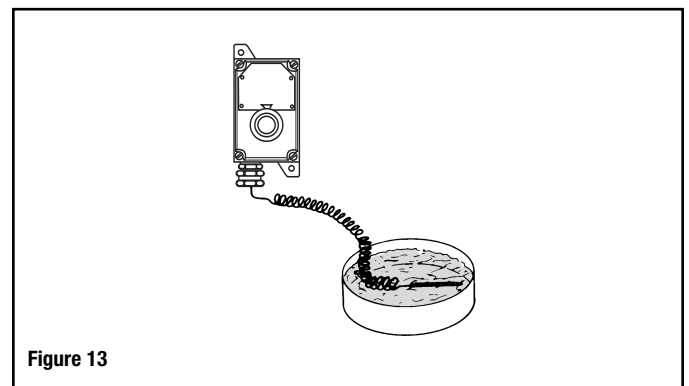

Figure 13
1. If accurate measurement standards are not available, the thermostat can readily be adjusted to a known temperature standard such as boiling water (212°). See Figure 13.